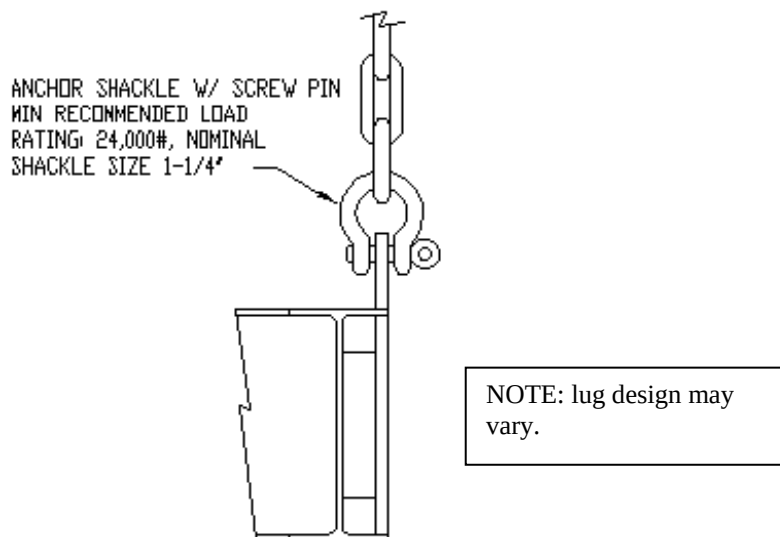

Figure 2
- 9) This unit shall be lifted using the eight lifting lugs welded to the base as shown above. Shackles and screw pins shall be provided (by others) as shown in Figure 2 as minimum.